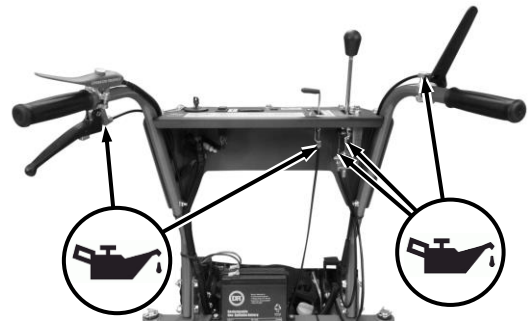
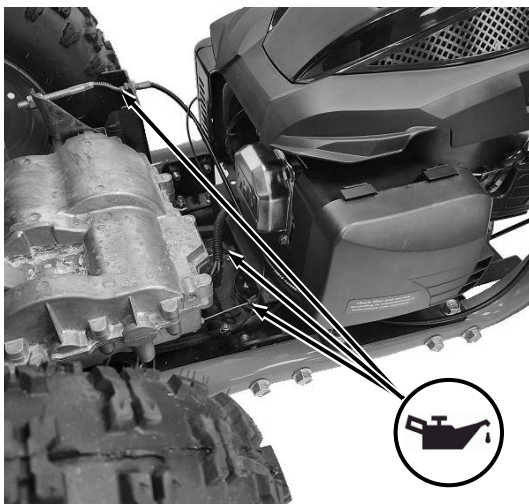

Figure 35
Figure 36
1. Using SAE 30 Oil, lubricate the end of the Cables at the Handlebars and Control Panel (**Figure 35**) and where the other ends connect to the machine (**Figure 36**). Operate the Levers to work lubricant into the Cables.